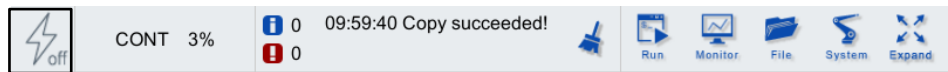

Figure 2-10 Enable status bar
Step3.Continue to press down firmly. At this time, it is the third key position. The robot is enabled (a "click" sound is heard), and the lightning icon in the enable status bar (see Figure 2-10) is displayed as "⚡off" (gray). The "Run" indicator light of the control cabinet goes out.
Step4.When the enable key is in the second key position, release the key to return to the first key position, the robot is disabled, and the lightning icon in the enable status bar (see Figure 2-10) is displayed as "⚡off" (gray).